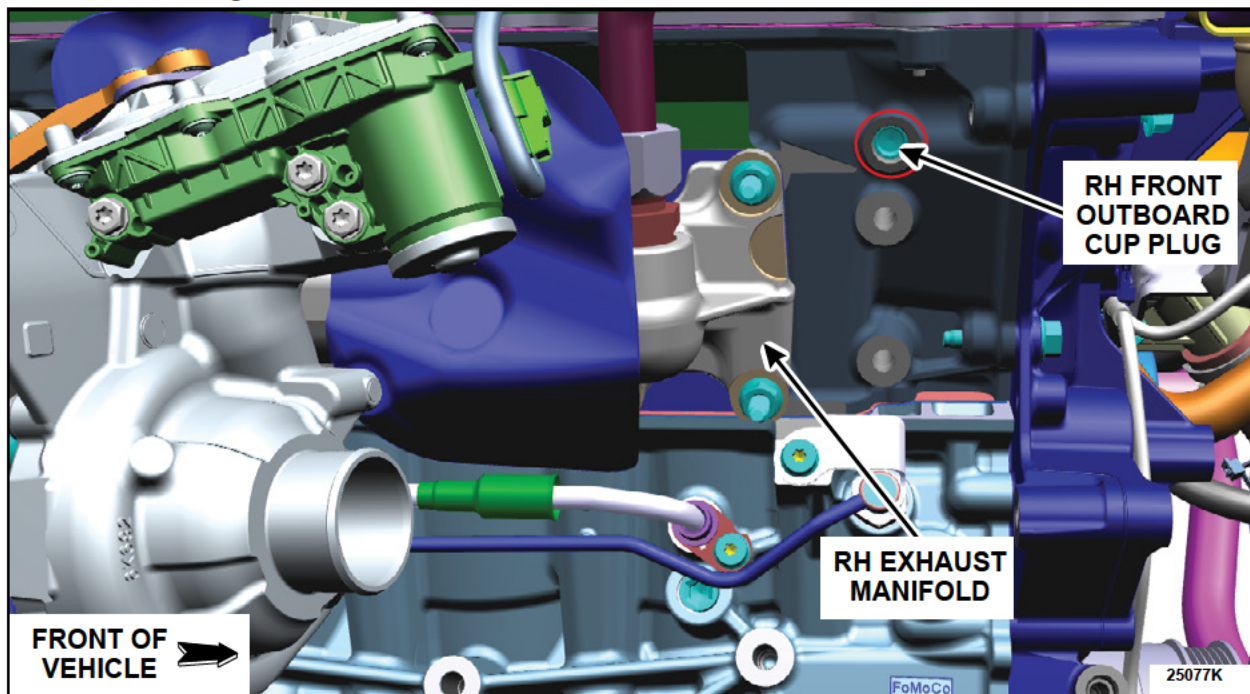

FIGURE 17
2. Through the RH wheel well, identify the RH front outboard cup plug located beside the RH exhaust manifold. See Figure 17.